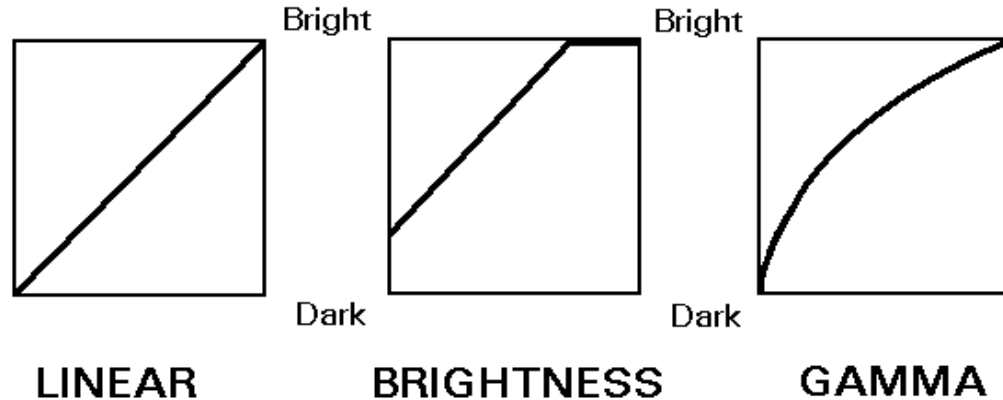

Figure 6.6: The colour adjustment sliders.
**Brightness** The brightness adjustment globally modifies the general brightness of a colour component. It does this by uniformly shifting the colour map upwards or downwards. This is demonstrated in figure 6.6. All input intensities of one primary printing colour will be shifted upwards (made brighter) by the colour map. If you brighten all the primary printing colours, the whole picture becomes brighter.
Figure 6.6 shows an example colour map which has a positive gamma adjustment. The gamma adjustment also affects the contrast of the colour component. In the darker part of the spectrum contrast is increased; in the lighter part of the spectrum contrast is decreased.